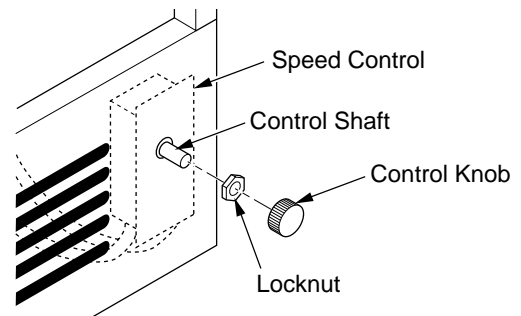

Figure 11 - Attaching Speed Control to Firebox
9. While supporting speed control, secure control shaft with lock nut by pushing and turning lock nut with pliers clockwise until it is tight against front panel. Place control knob provided on shaft (see Figure 11).